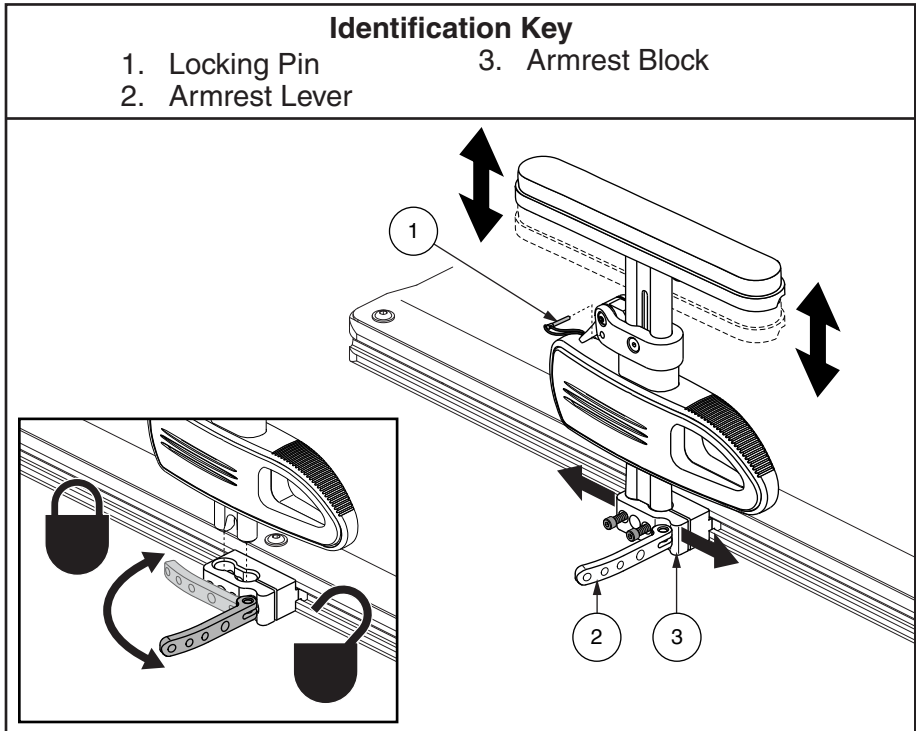

Figure 15. Pediatric Single Post Quick Height Adjustment Armrest Removal/Installation
1. Rotate the armrest lever forward. **See figure 15.**
1. Place the armrest assembly into the armrest block. **See figure 15.**
1. If present, remove the optional locking pin. **See figure 15.**